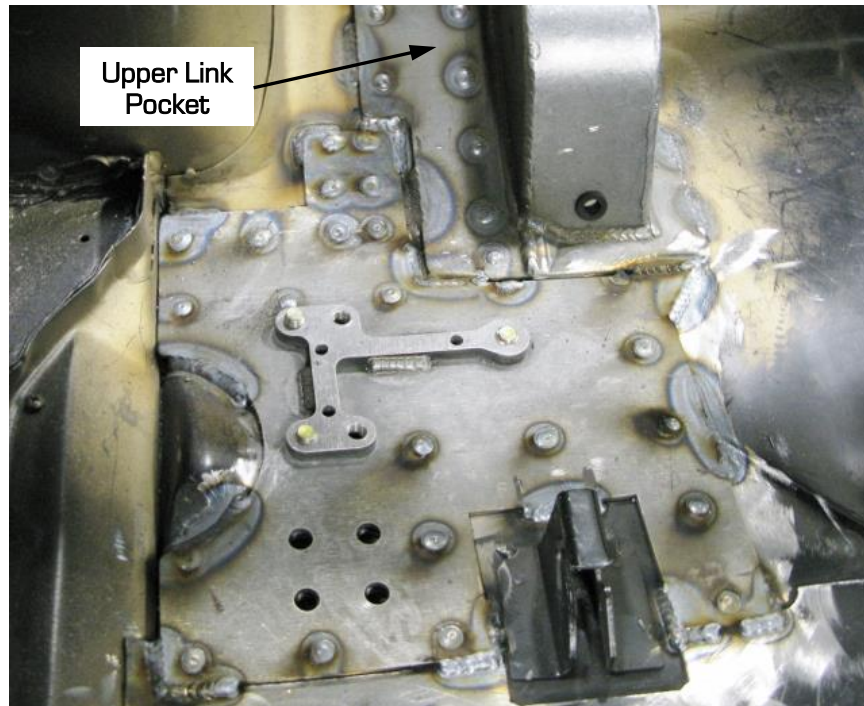

Figure 12 - Weld Floor Doubler Plate
29. Stitch weld the perimeter of the floor pan doubler plate and plug weld the pre-drilled holes to the floor pan (Figure 12). If you have installed the DSE QUADRALink you can weld the area between the upper link pocket and the floor pan doubler together. **NOTE:** You may need to adjust the rear of the doubler at the bend to fit correctly due to floor pan variation.